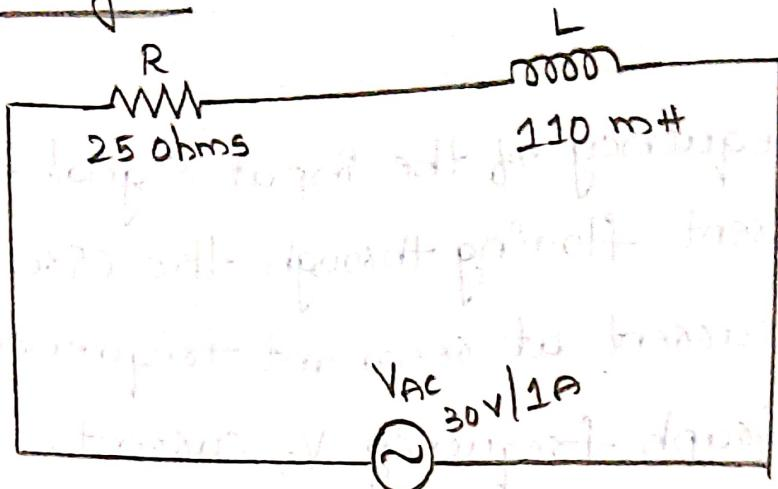

fig 1: RL series circuit.
The voltage across the inductor is  $V_L = IX_L$  then voltage across the capacitor is  $V_C = IX_C$ . The voltage across the resistor is  $V_R = IR$  phase relations among these voltages are shown in figure 1. The voltage across the resistor is in phase with the current. The voltage across the inductor leads the current by  $90^\circ$  degrees. The voltage across the capacitor lags the current by  $90^\circ$ .
2. Make the Connections as per the fig. 1 as shown.